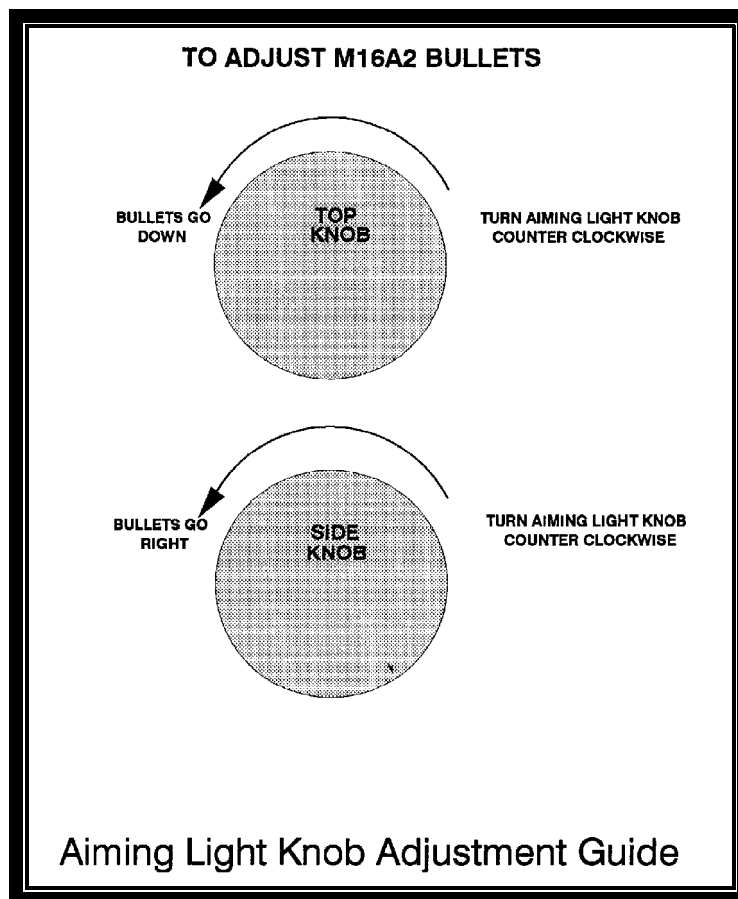

Figure 10
(5) *Aiming light knob adjustments.* The last step in preparation for zeroing is to make a training aid for showing which direction to turn the aiming light knobs to adjust bullets on the bullet impact point. Experience has shown that the markings on the aiming light knobs can be misinterpreted. Bullets can suddenly go off the zero target, off the E-silhouette, or in the wrong direction because the aiming light was adjusted incorrectly. A training aid shown in Figure 10 helps to correct this problem.